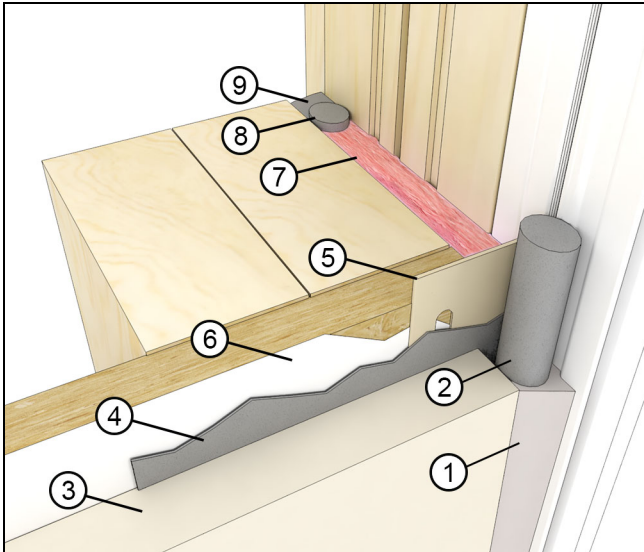

Figure 63
1. For ALL applications: Once the exterior finish such as siding or brick veneer is installed, apply bead of sealant between the finish and the frame exterior or casing along the sides. Apply additional beads approximately 1"- 2" (25-51) at the ends on top of the drip cap. Use a backer rod when necessary. See Figure 63 and Figure 64.